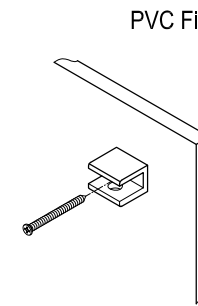

Fig. 5
5. Fasten the brackets by threading the screws into the drilled holes (fig 5).